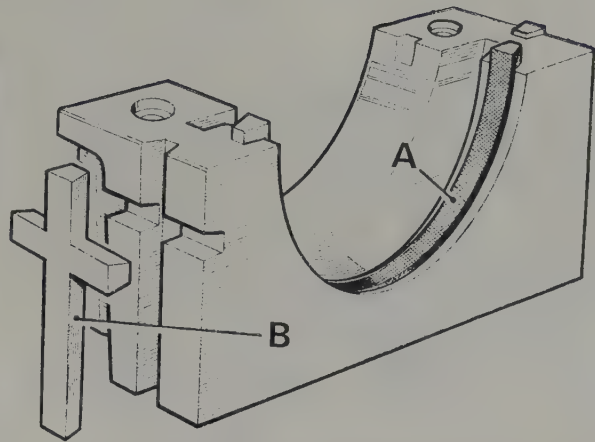

Fig. 1.61. Bottom rear main bearing showing oil seal (A) and side seal (B) — later models
**Note:** On early models, a 'monolithic' type seal is used with a matching cap. Later engines have a 'cruciform' type as shown in Fig. 1.61. The two different types must not be interchanged, but in an emergency the early seal may be used with the later cap.